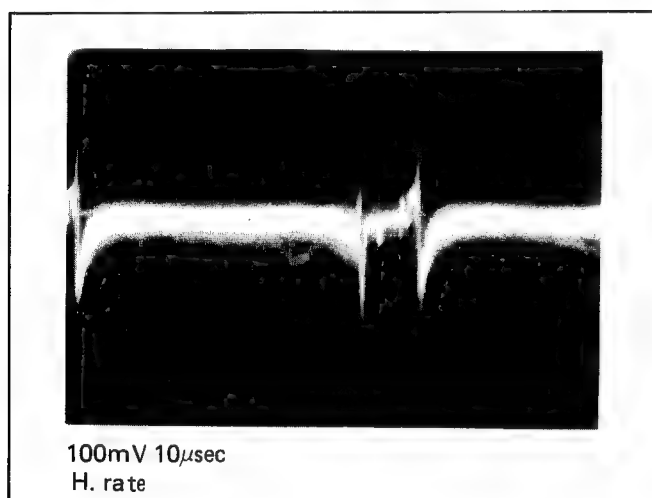

Fig. 32 Waveform of TP316
4. Then, alternately adjust VR316 and VR317 for the signal waveform to be flattest during the horizontal period as shown in Fig. 32.